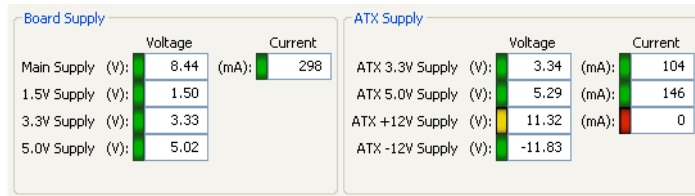

Figure 5-9. Board Voltage Monitoring
1. Observe voltages in real-time (including potentiometer) in the **Board Status** tab (Figure 5-9).
3. Observe the reading for **Main Supply** in the **Board Supply** panel (Figure 5-9). Compare this reading to the reading for the main supply voltage in the **Graphs** tab (Figure 5-10).
4. Observe the reading for 3.3 V, 5.0 V, and +12 V in the **PSU Supply** panel (Figure 5-9). Compare this reading to the reading for each voltage level in the **Graphs** tab. You may have to scroll down for each voltage level using the scroll bar on the right hand side.